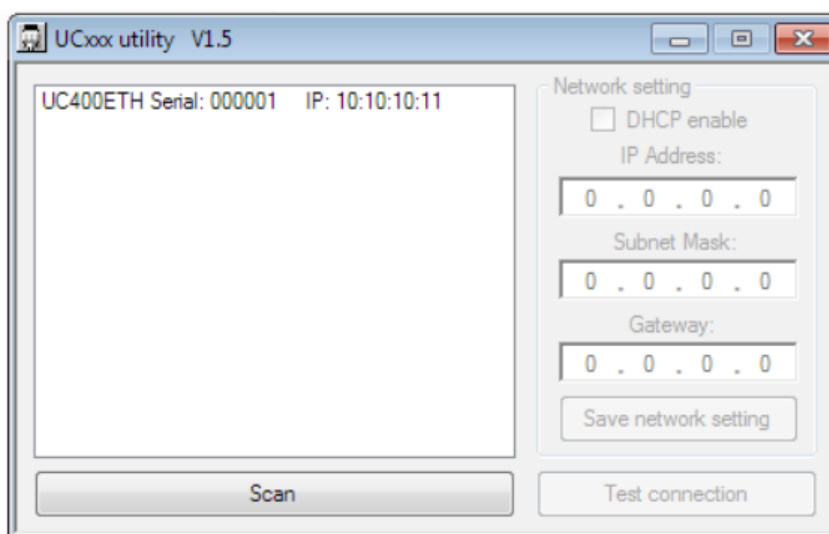

Figure 33: Utility scanner showing that the module is connecting okay with the computer
- 9- Once configured you can run the utility scanner to check the module is connecting to the machine okay. Refer to Figure 33